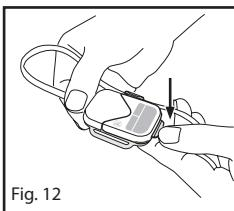

Fig. 12
1. Push down on the tab to release the reusable chip from the sensor. Refer to **Fig. 12.**